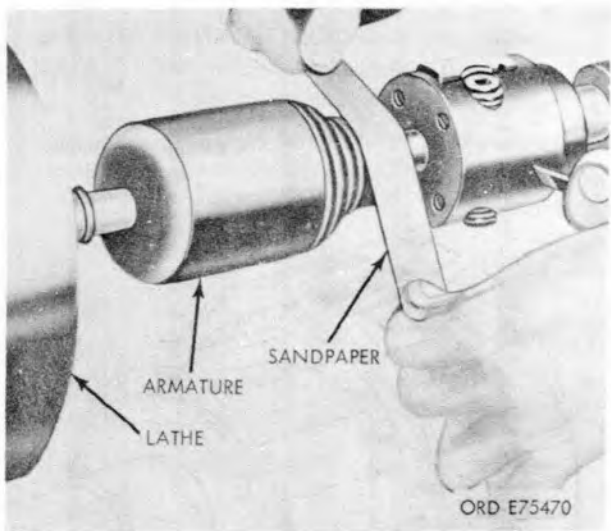
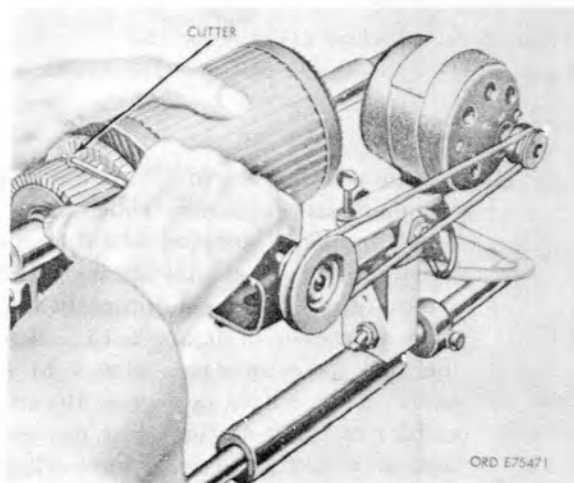

Figure 4-18. Removing burs with 00 sandpaper.
Figure 4-19. Undercutting commutator mica.
- (1) If commutator is worn, rough, out-of-round, or has high mica, filled slots, or burned spots, place the armature in a lathe and turn the commutator. Use a commutator cutting tool properly sharpened as shown in figure 4-15. Mount the tool as shown in figure 4-16 and 4-17. Take a light cut across the entire surface of commutator. Cut no deeper than necessary and smooth burs with size 00 sandpaper after cutting (fig. 4-18). Replace armature if diameter of reconditioned commutator is less than 2.150 inch. Undercut mica of reconditioned commutator to a depth of  $\frac{1}{32}$  inch using an undercutter (fig. 4-19).